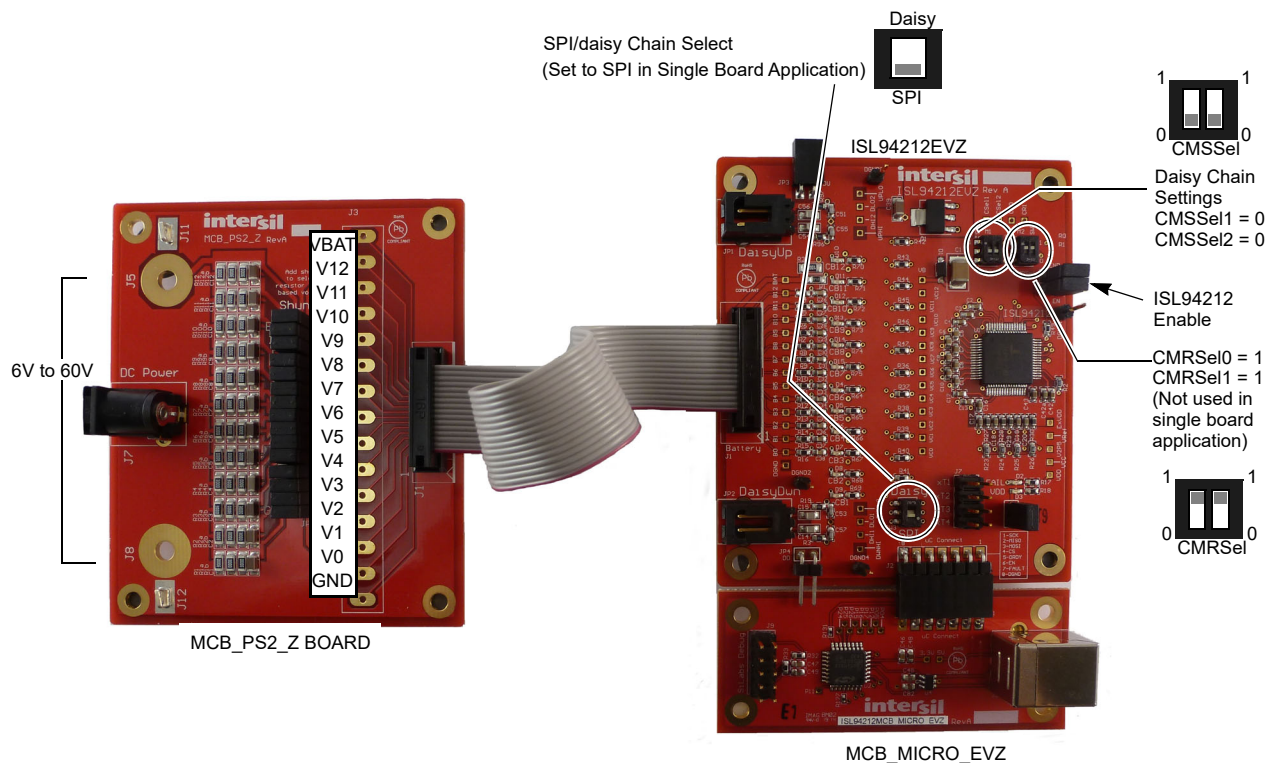

Figure 4. ISL94212EVKIT1Z Single Board Setup
1. Connect the MCB_MICRO_EVZ board (J1) to the ISL94212EVZ board (J2) (see Figure 4).